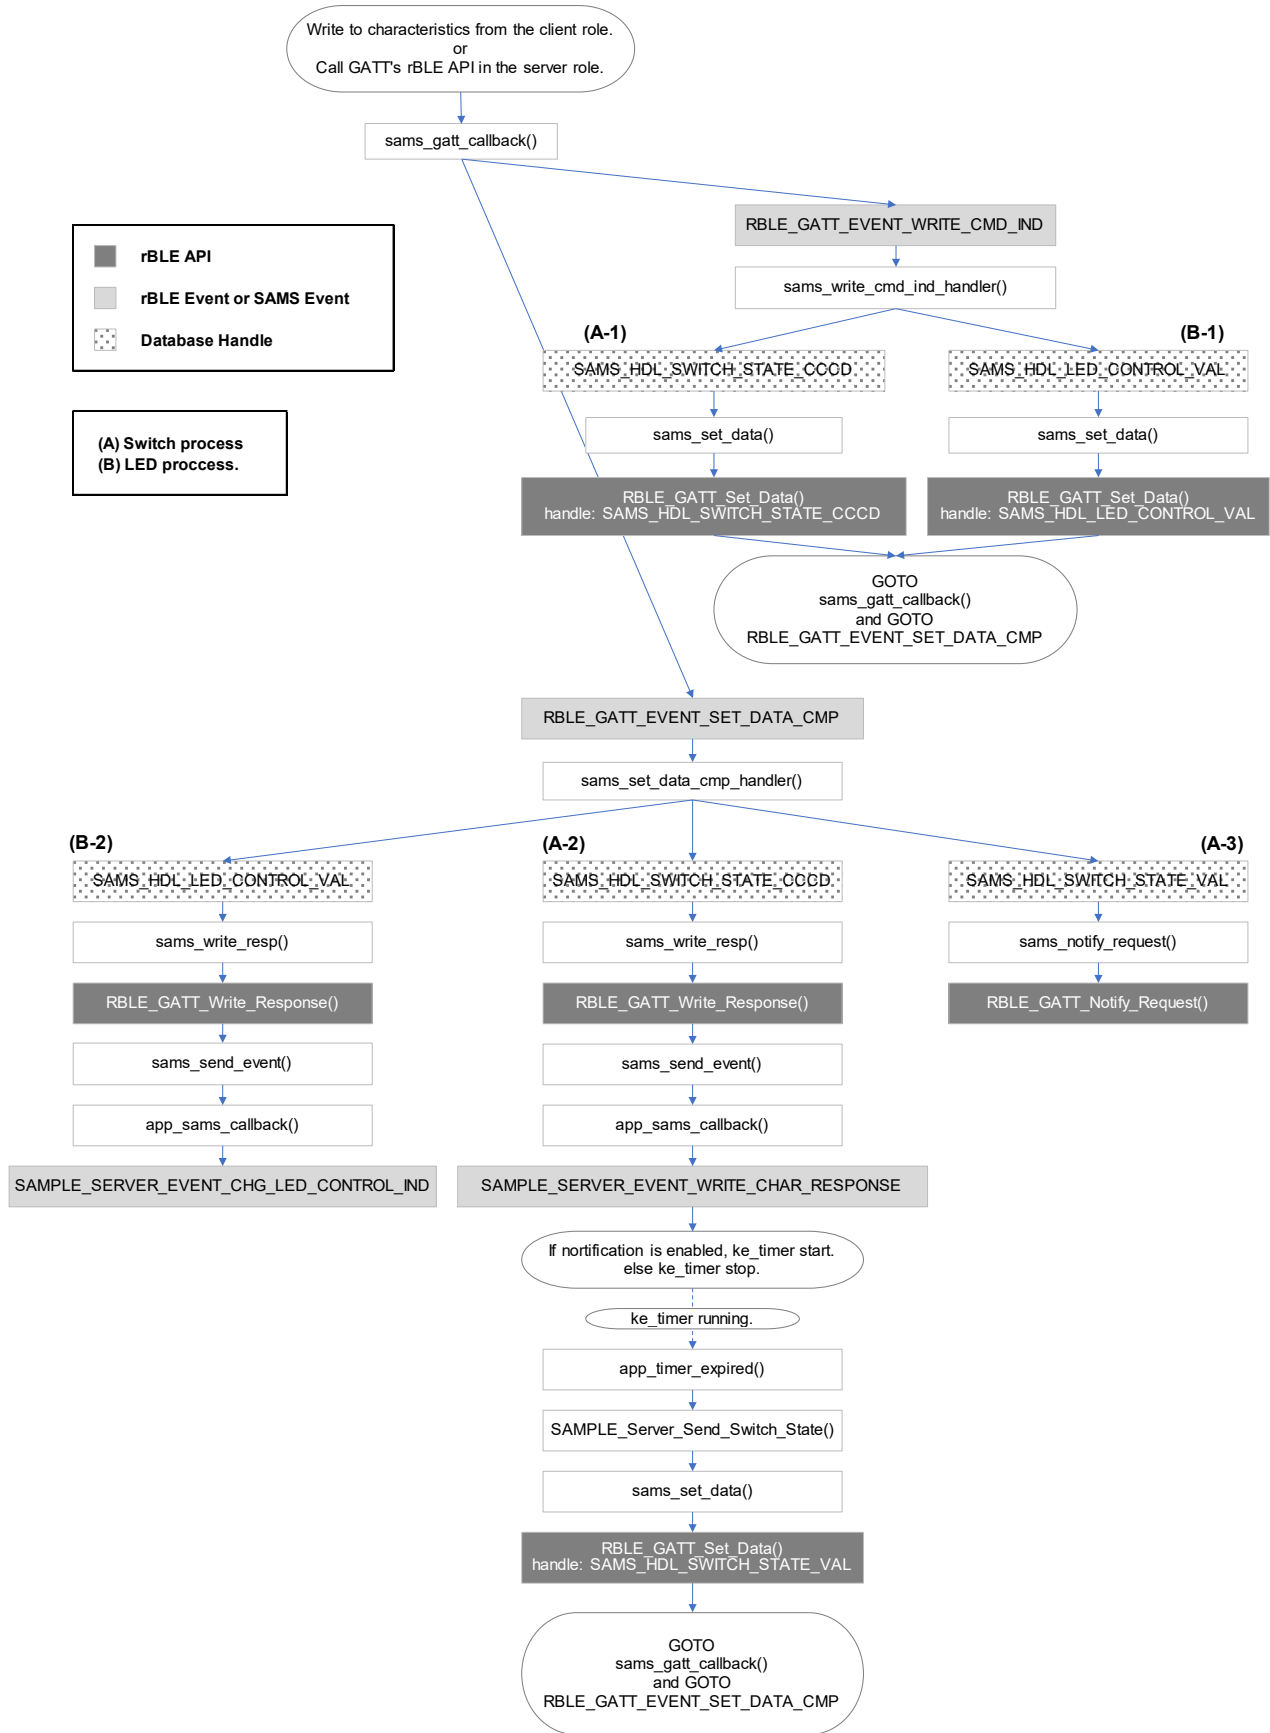

Figure 7-3 Sample Custom Service Server Role Flow
This section explains using flow (Figure 7-3 Sample Custom Service Server Role Flow) how rBLE API, rBLE Event, and database handle (hereinafter called "Handle") are used in Sample Custom Service processing. The server process and related source code explained in this flow diagram are as follows.
- (A) Flow chart for notifying the press/release state of the switch by Notification. (Figure 7-3: A-1, A-2, A-3)
- (B) Flow chart to turn on/off LED. (Figure 7-3: B-1, B-2)